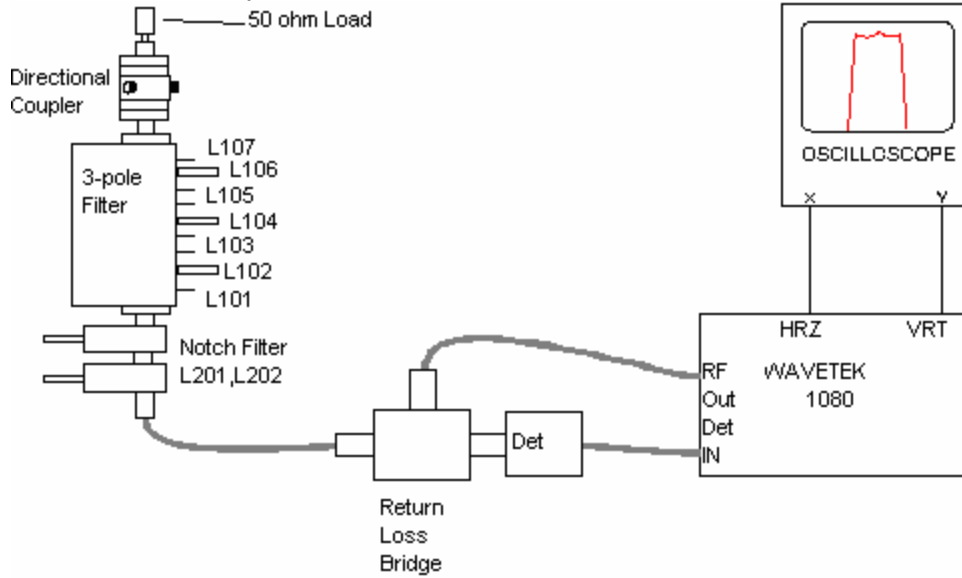

Figure 3. Return Loss Set-up
13. Configure the equipment for return loss measurements, as shown in Figure 3.